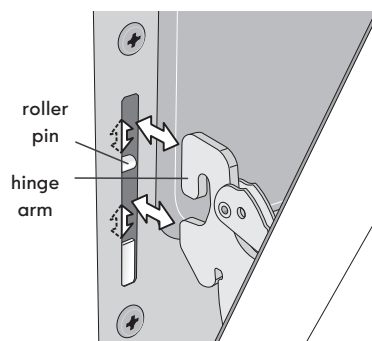

Figure 31: Hinge pin locations
2. Holding the oven door at the same angle as the removal position, seat the hook of the hinge arm over the roller pins located on each side of the oven door frame (Figure 31). The hook of the hinge arms must be fully seated onto the roller pins.